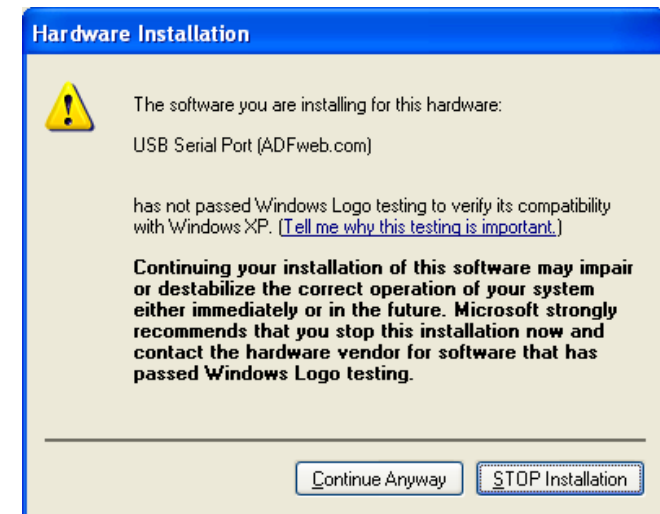

Figure 9: "Hardware Installation" window
8. In the "Hardware Installation" window press the "Continue Anyway" button (Fig. 9);